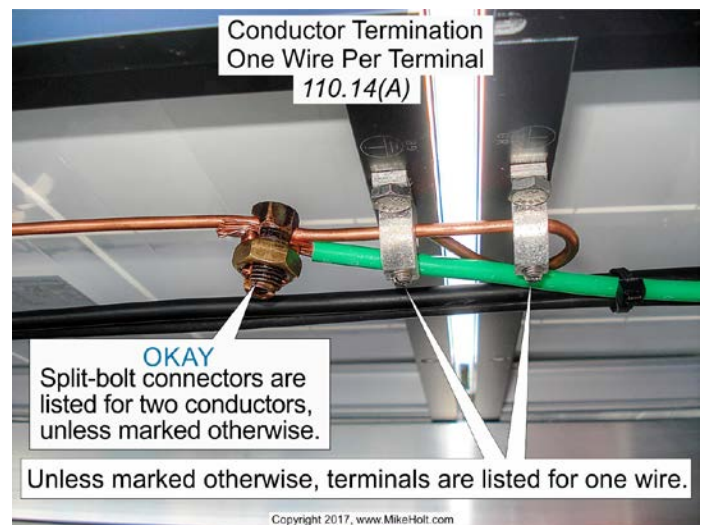

Figure 110-11
- Split-bolt connectors are commonly listed for only two conductors, although some are listed for three conductors. However, it's a common industry practice to terminate as many conductors as possible within a split-bolt connector, even though this violates the *NEC*. Figure 110-11